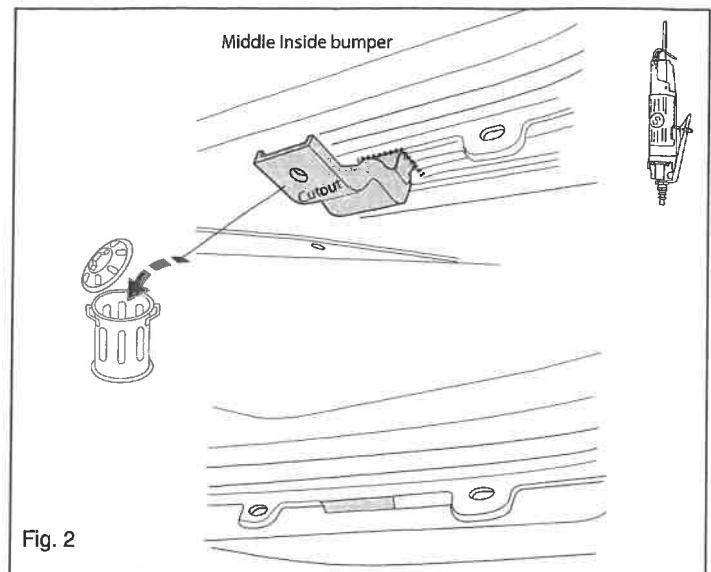

Fig. 2
- Saw out the indicated section in accordance with figure 2 and 3.